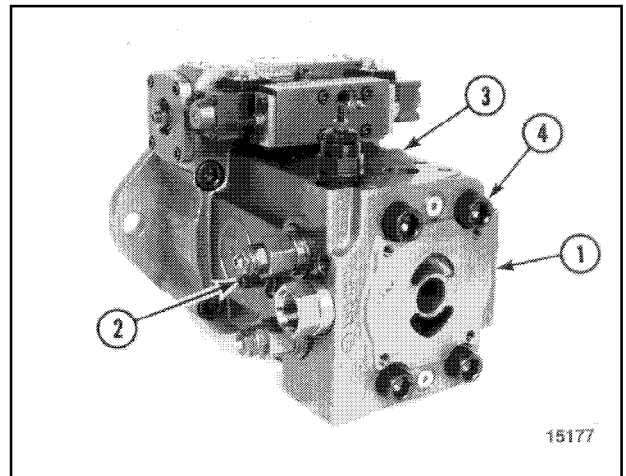

Figure 64
39. Back off screw (2, Figure 64) so that it does not protrude into the pump housing.
40. Using match marks for correct positioning, install connection plate (1) on pump housing (3).
41. Install four screws (4, Figure 64) and tighten to 138 lbf ft (19.1 kg•m).